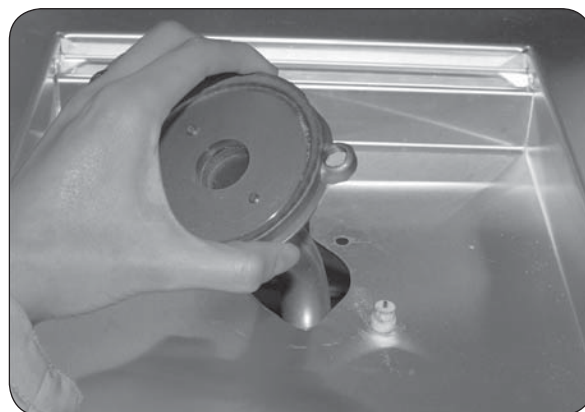
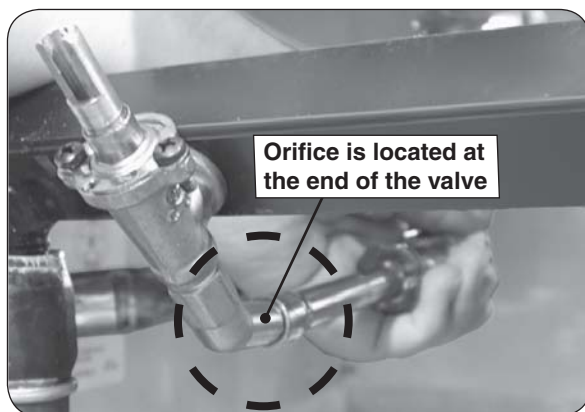

Fig. 21-2 Remove burner
Fig. 21-3 Orifice location
4. Remove the burner cap and carefully lift the burner up and out, clearing the ceramic electrode (see Fig. 21-2), and pulling the burner tube away from the orifice, located on the end of the orifice holder on the left side of the unit (see Fig. 21-3).
5. Using a 3/8" socket, remove orifice from the orifice holder (see Fig. 21-3) and check the number stamped on the orifice face.